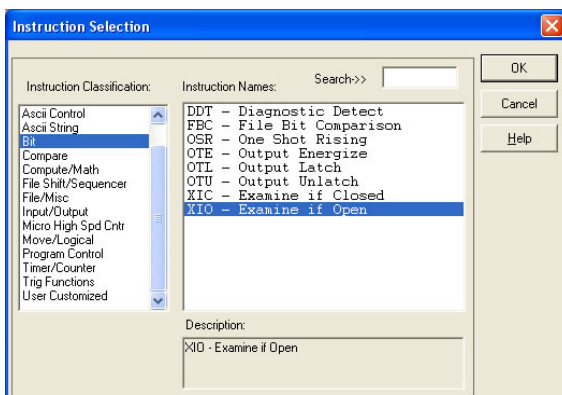

Figure 120: XIO Instruction Selection
- b) Select the "XIO" instruction from the "Bit" classification, and then click OK. Refer to Figure 120.